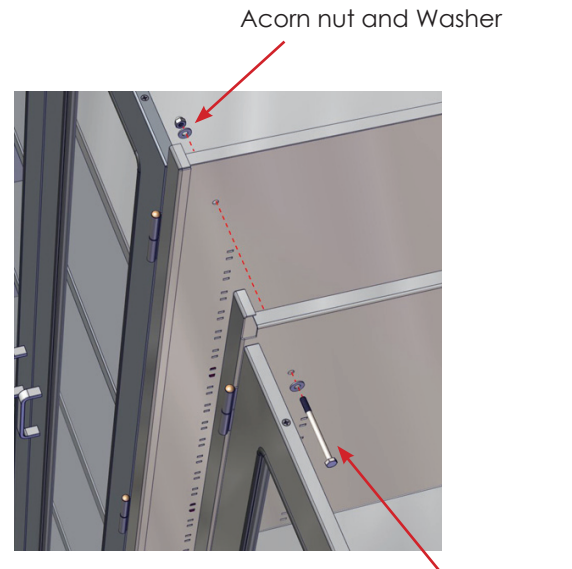

Fig. 12: Attaching Banked Cabinets/ Front Connections
8. Insert a 1/4" bolt and one washer through one of the top front connection holes until it protrudes from the other cabinet. Secure with the washer and acorn nut. Repeat with the center front and bottom front connection holes (Fig. 12).